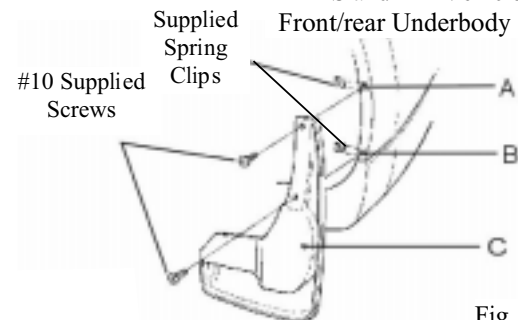

Fig. F-6
-  7. Install supplied spring clips with turned up edge on inside of bumper body panel at locations A and B. (Fig. F-6)